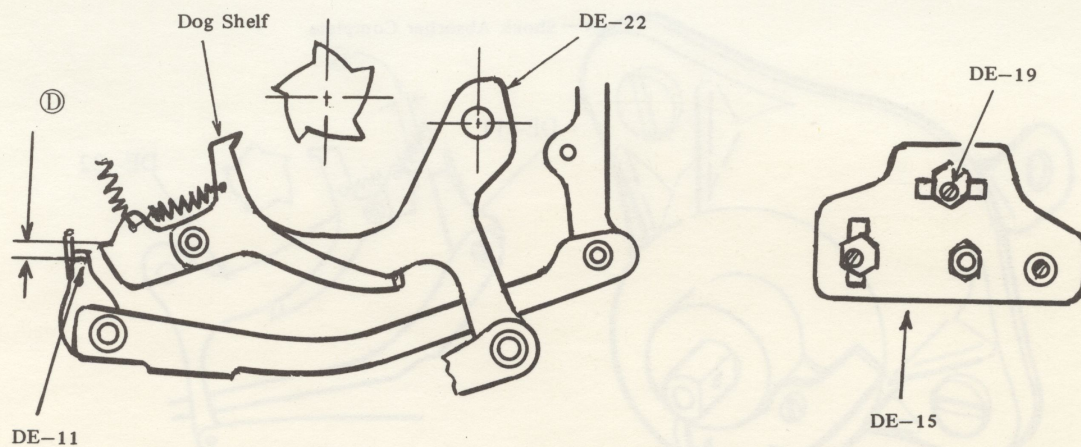

Fig. 19
- (5) When depress DA-74 (Sector Plate) by hand, adjust the position of DE-11 (Shift Auto-Locker Plate) by DE-19 (Eccentric Collar) of DE-15 (Holder for DE-11) to obtain 0.3 to 0.5 mm of dimension ① from the tip of DE-22 to DE-11 (Shift Auto-Locker Plate). (Fig. 19)